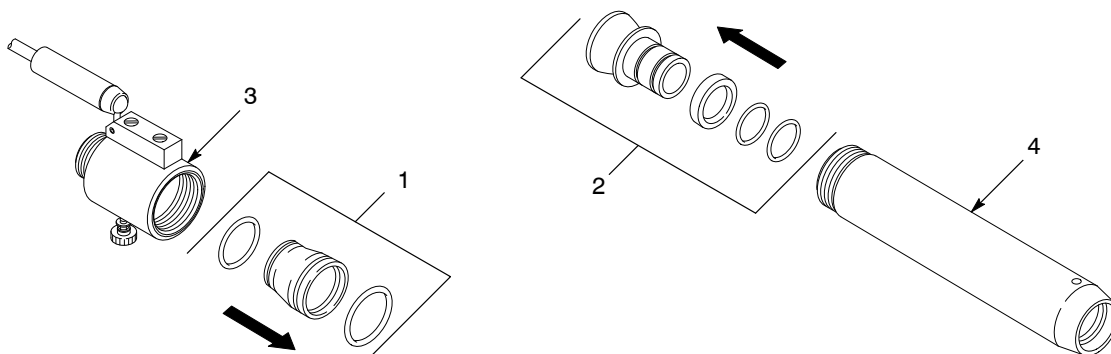

Figure 6-4 Removing the Charge Module—Steps 3 and 4
3. See Figure 6-4. Push the inlet wear sleeve assembly (1) out of the body (3) with a wooden dowel or piece of $\frac{3}{4}$ -in. OD schedule 40 PVC pipe.
4. Remove the outlet wear sleeve assembly (2) from the extension (4). Clean the body and extension with a clean, lint-free cloth.